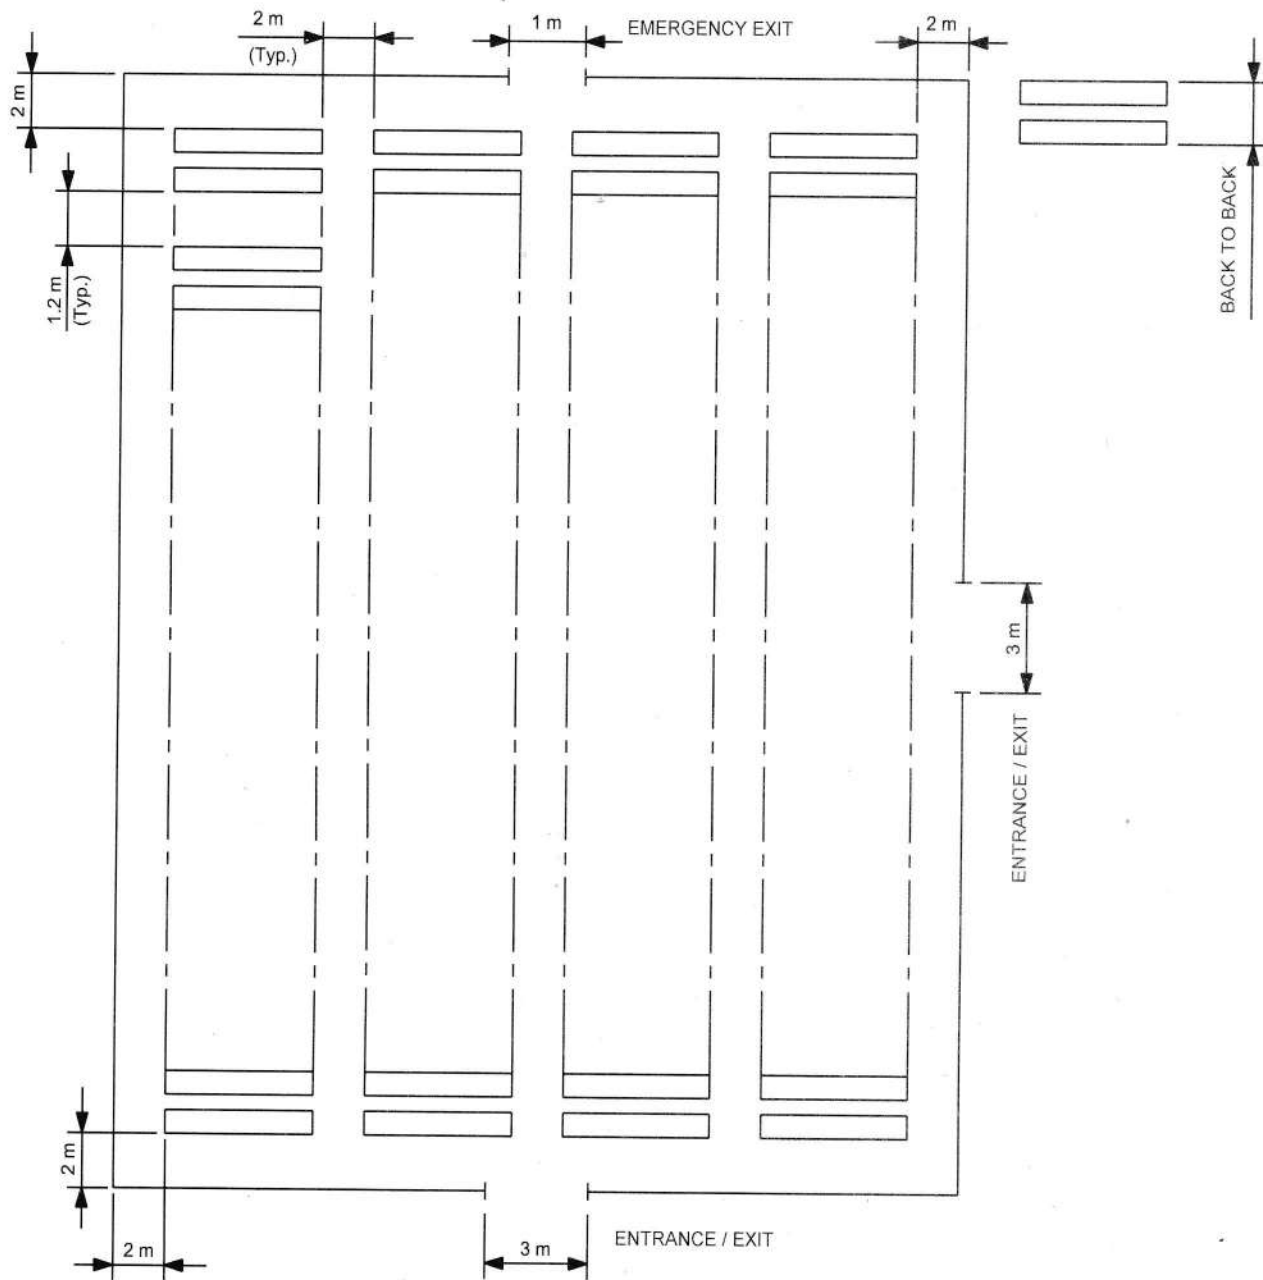

FIG. 22 LAYOUT OF STORE
1. The bulk carrying cases have to be arranged as shown in Fig. 22 (LAYOUT OF STORE). They can be placed one after the other as shown in Fig. 22.